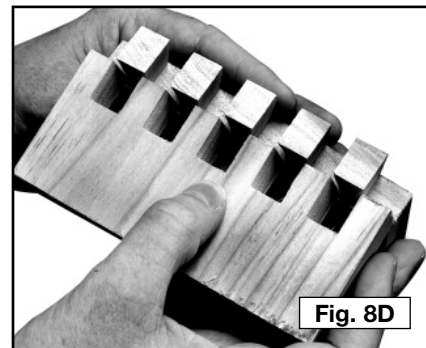

Fig. 8D
Step 6 - Remove the pin board and check the fit with the tail board (Fig. 8D).